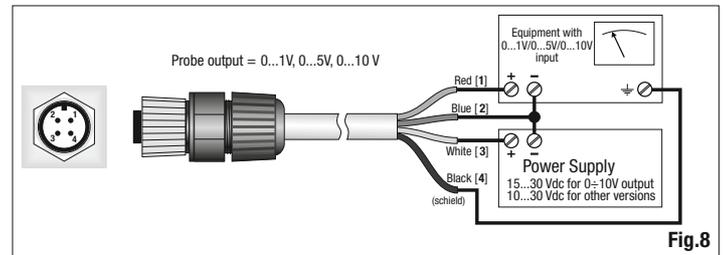

Fig.8
- LP PYRA 10 AV and LP PYRA 13 AV have be connected to a power supply and a multimeter, as shown below (Figure 8), the load resistance for reading the signal must be $\geq 100 K\Omega$: